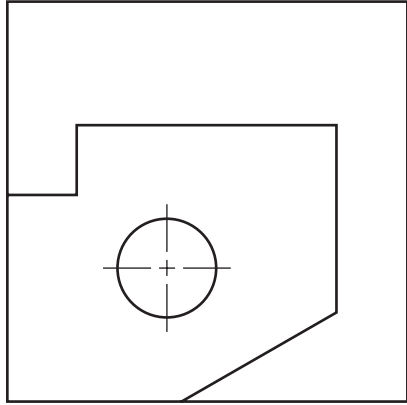

Figure 13
The shape shown in Figure 13 will be marked out on a 200 mm square aluminium plate.
- b. Name four marking-out tools that would be required to mark out the shape shown in Figure 13. 2 marks